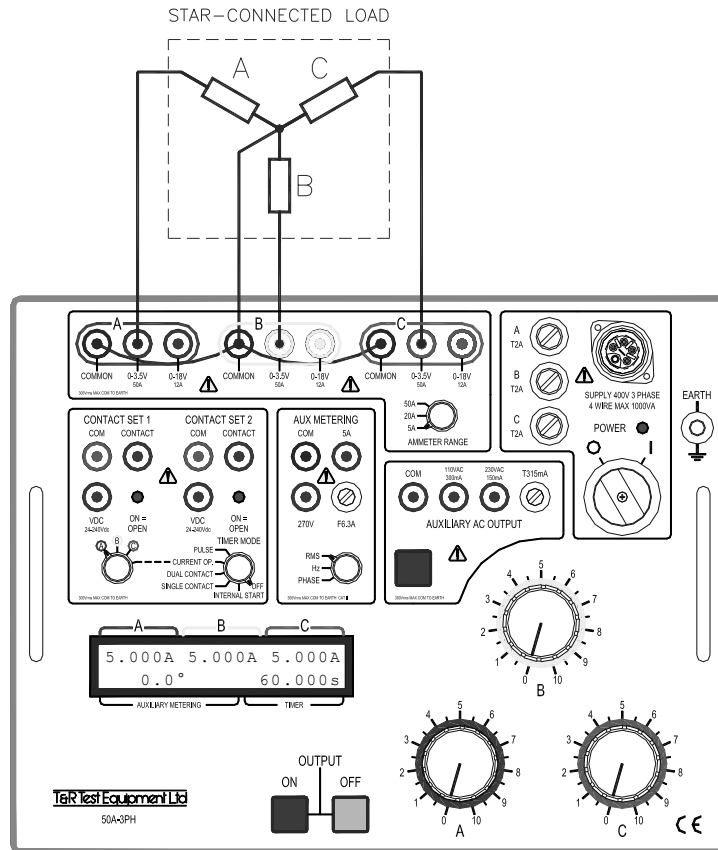

Figure 2.3 Connections for star-connected load
The configuration and interconnection of the outputs depends on the configuration of the load. The configuration for injecting current into a three phase star-connected load is shown in figure 2.3.
- Connect the test object to the desired output. An example connection is shown in figure 2.3 using the 0-3.5V output.